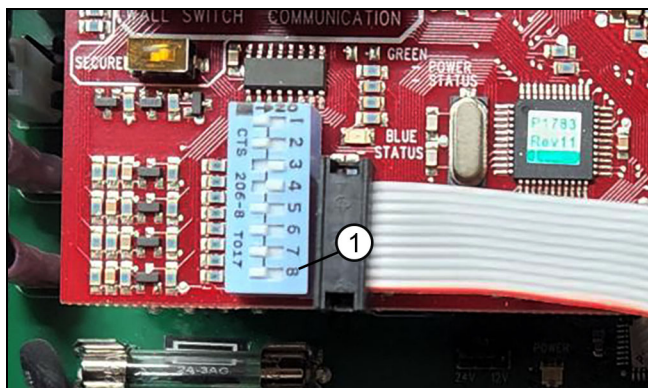

Figure 54
3. Turn on both AC and Battery power switches on the control box cover. Open the control box and flip dip switch 8 back to the left. See Figure 54.